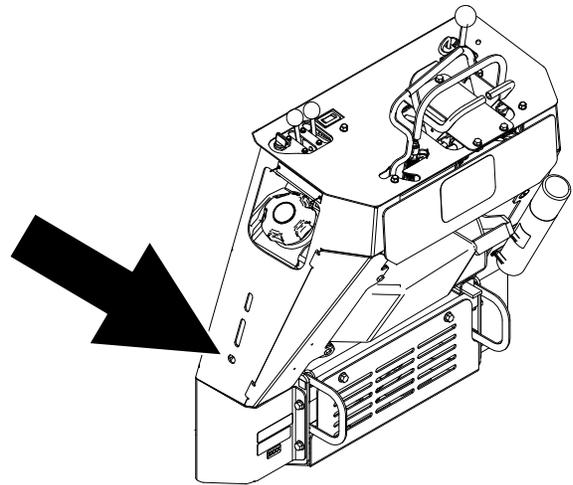

Figure 34
**Note:** You can use a ratchet extension in the hole shown in Figure 34 to engage an oil-filter wrench.